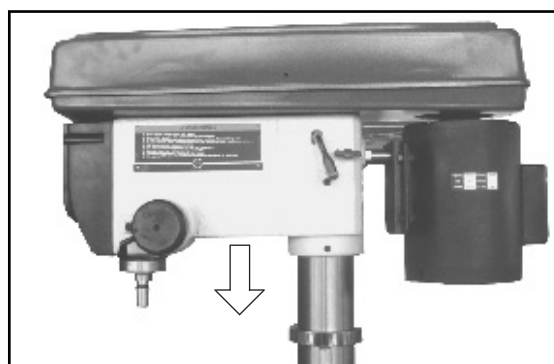

Figure 2
1. Place the drill press head onto the column as far down as it will go (Figure 2). Then align the drill press head with the base of the drill press.